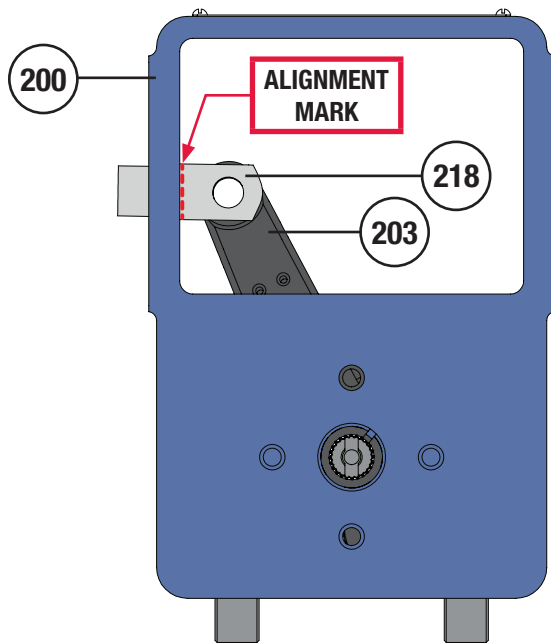

Figure 52 Clevis Alignment Mark
- 7 It is recommended that an alignment mark be made on the clevis (Key 218) before the spring barrel assembly is installed. With the valve in the closed position, place the clevis over the lever (Key 203) so the holes are aligned (it may help to temporarily install the clevis pin (Key 219). Mark a line on the clevis where the clevis lines up with the edge of the yoke window as shown in Figure 52. Remove the clevis and proceed to Spring Barrel Assembly Installation.